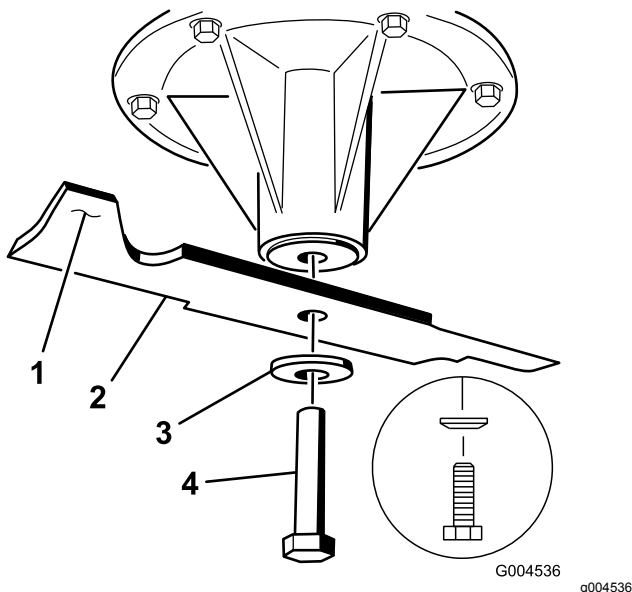

Figure 100
1. Install the blade onto the spindle shaft (Figure 100).
2. Install the spring disk and blade bolt (Figure 100).
Note: The spring-disk cone must be installed toward the bolt head (Figure 100).